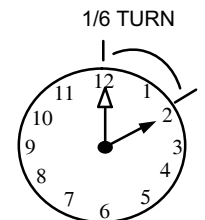

Figure 13. Evacuating Line Set and Indoor Coil
2. Evacuate the system using procedure provided in figure 13.
4. Evacuate the system again using procedure in figure 13.